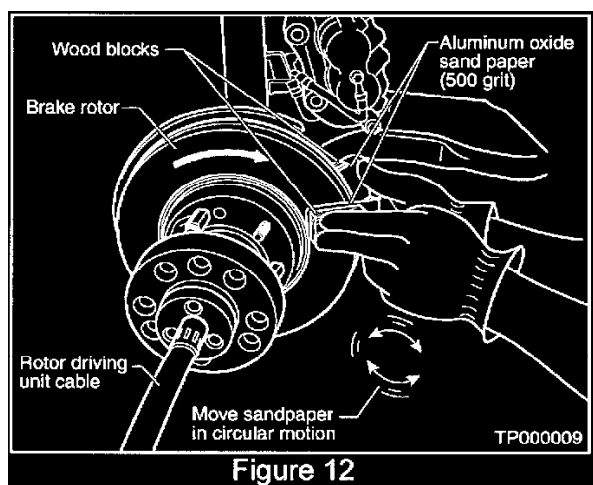

Figure 12
21. Turn the rotors and hand finish the newly turned rotor surface with a non-directional swirl pattern using #500 grit aluminum oxide sandpaper. This improves the rotor surface finish and helps to further reduce noise (see Figure 12).
Use a small, flat block of wood between the sandpaper and your fingers to ensure a flat, smooth surface finish (see Figure 12).